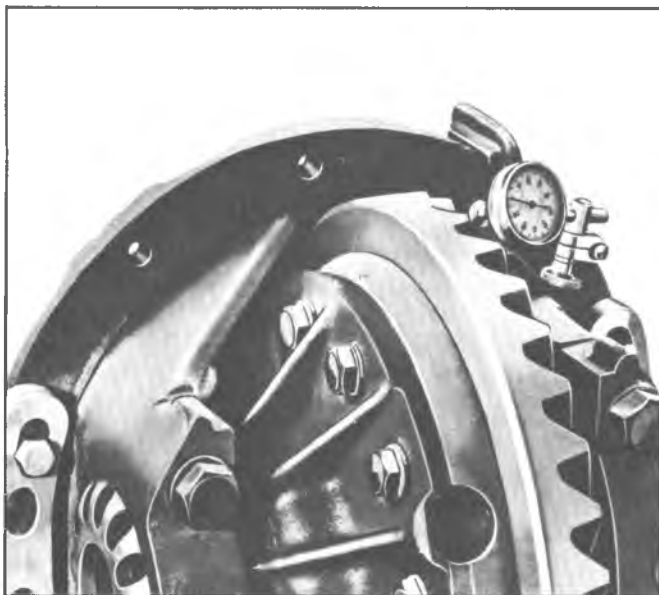

Fig. 10G—Checking Backlash
6. Mount a dial indicator on the carrier and check the backlash between ring gear and pinion as shown in Figure 10G. Backlash should be from .003" to .012" (.005" to .008" preferred).